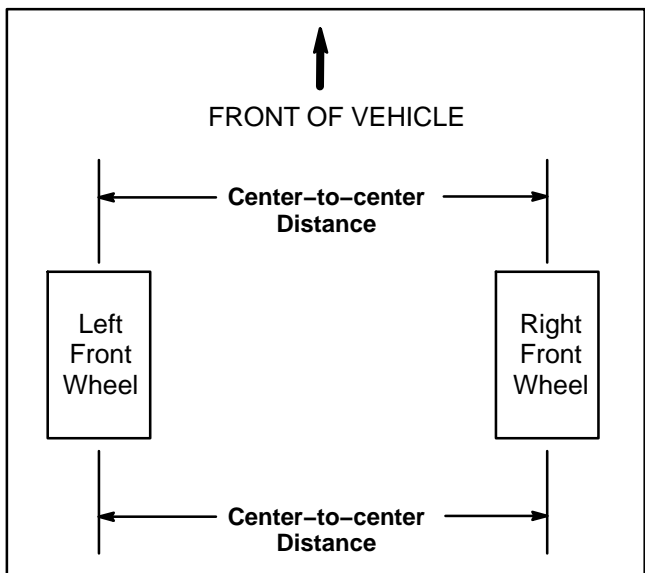

Figure 3
2. With the pitman arm centered, measure center to center distance (at axle height) between the front wheels at both front and rear of the wheels (Fig. 3). The front and rear measurements should be equal with a tolerance of 0.120" (3 mm). Rotate tires 90° and make a second measurement.